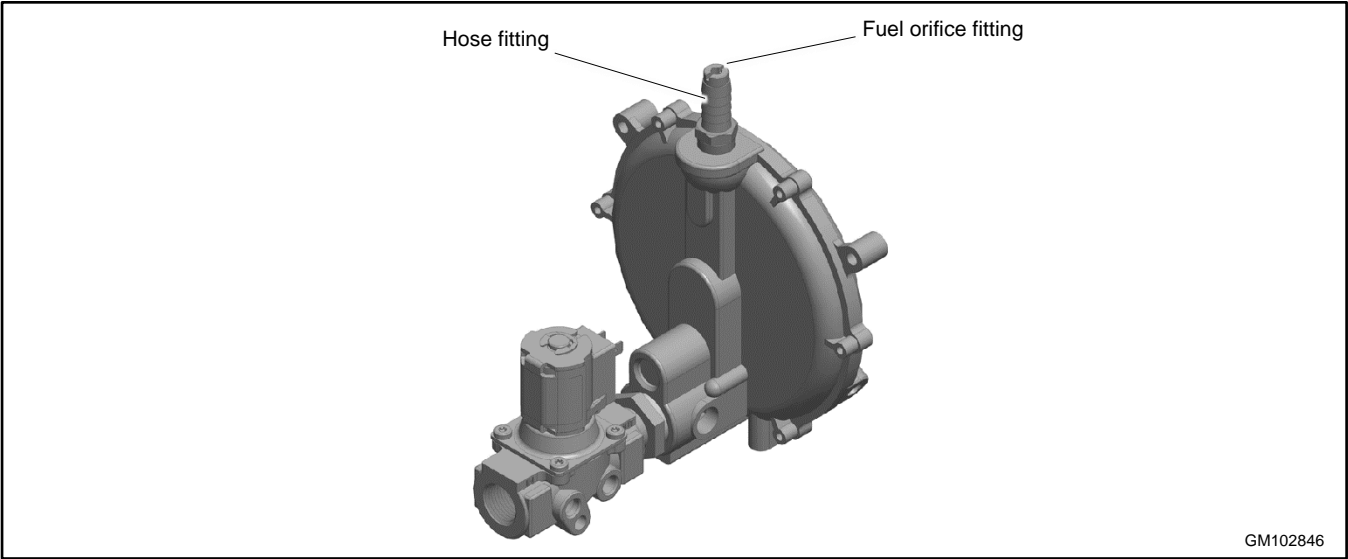

Figure 95 Fuel System Showing Orifice Fitting
6. Use a straight-blade screwdriver to remove the NG orifice from the hose fitting. See Figure 95.